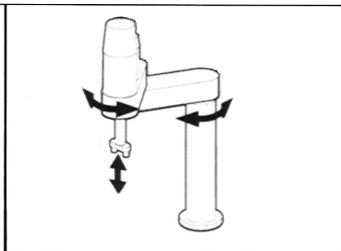

Fig.2 SCARA
- 2. Scara Robots** - Robots whose arms have two parallel rotary joints to provide compliance in a plane (can have from three to five axis). Fig. 2.